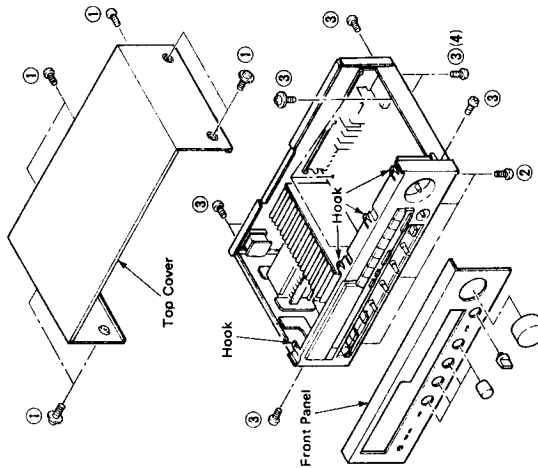

Fig. 1
Remove 7 screws (1) in Fig. 1, and slide the Top Cover back.
Remove 4 screws and 4 hooks in Fig. 1, and pull the Front Panel forward.
3. Check of Main Circuit Board (1) & replacement of parts.
- a. Remove 12 screws (3) in Fig. 1.